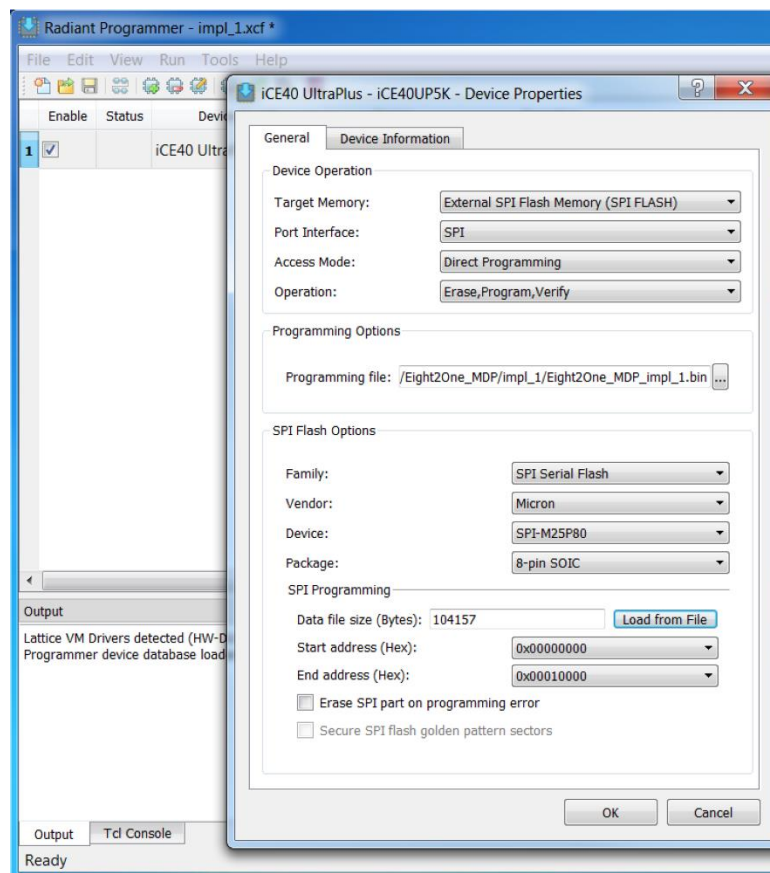

Figure 5.1. Device Properties
6. In the **Device Properties** dialog box, apply the settings as shown in Figure 5.1.
- **SPI Flash Options:** Select the correct Flash chip as shown in Figure 5.1.